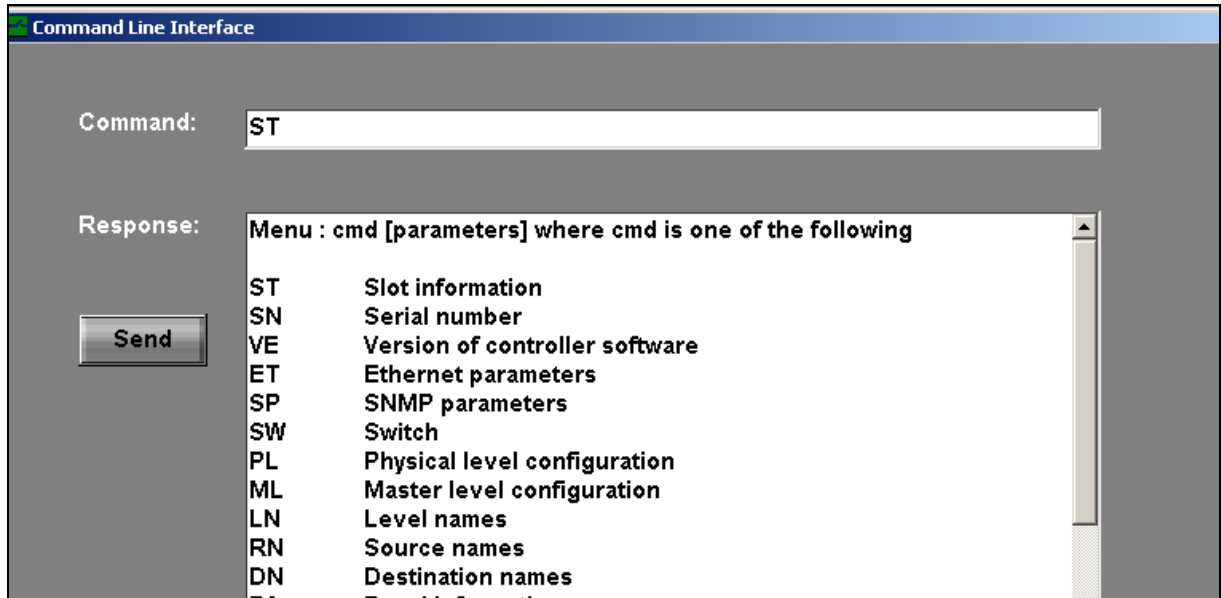

FIGURE 143: Command Window Entry
- 1) Select a desired command from the list (you may have to use the scroll function to access the remaining commands) and type the command in the Command window (see Figure 143).